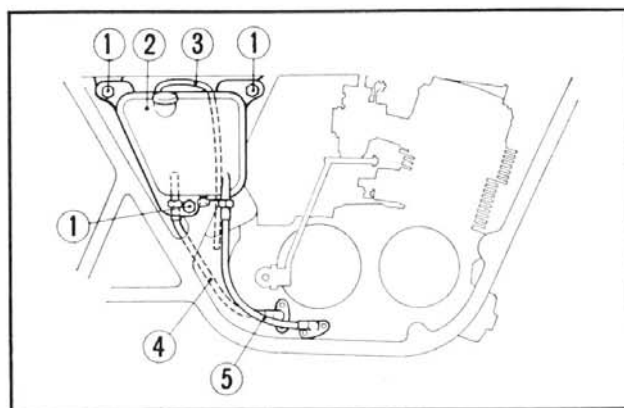

Fig. 15-11
**Note:** Make sure that hoses A and B are installed in their respective locations. (Fig. 15-11)